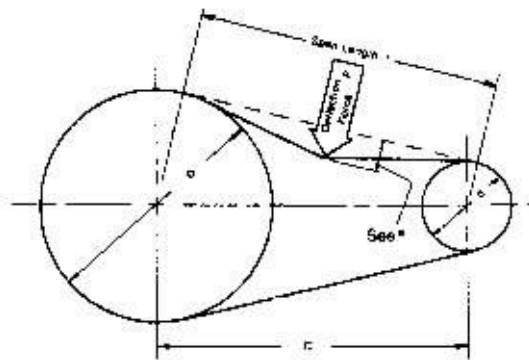

Figure 2
Step 1: Install belts per Step 1 of General Method above. Measure span length (t) in inches as shown in figure 2, or calculate using formula.
Step 2: From figure 2 the deflection height (h) is always  $\frac{1}{64}$ " per inch of span length (t). For example, a 32" span length would require a deflection of  $\frac{32}{64}$ " or  $\frac{1}{2}$ ".
Step 3: Determine the minimum, maximum, and initial recommended pounds force using table 1 or calculate based on the required Static Strand Tension (T). Note: The initial recommended force is used only for installing new belts which have not seated themselves into the sheave grooves and where initial belt stretch has not taken place.
**Step 4: Using a spring scale, apply a perpendicular force to any ONE of the belts at the midpoint of the span as shown in figure 2. Compare this deflection force with the values found in Step 3.**